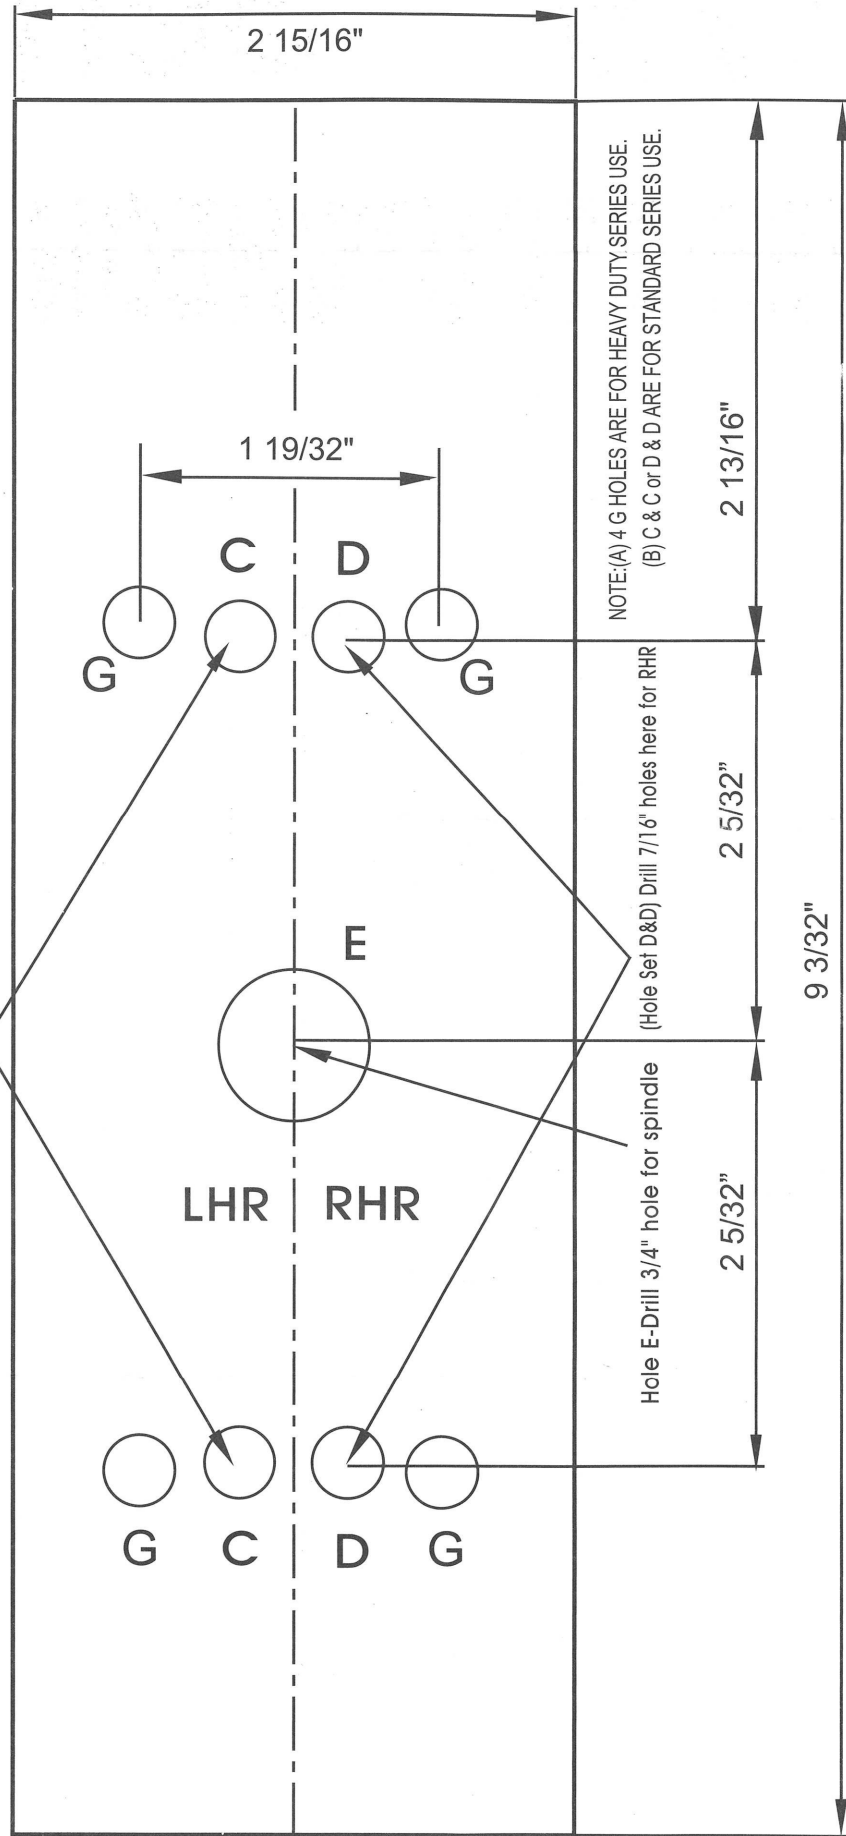
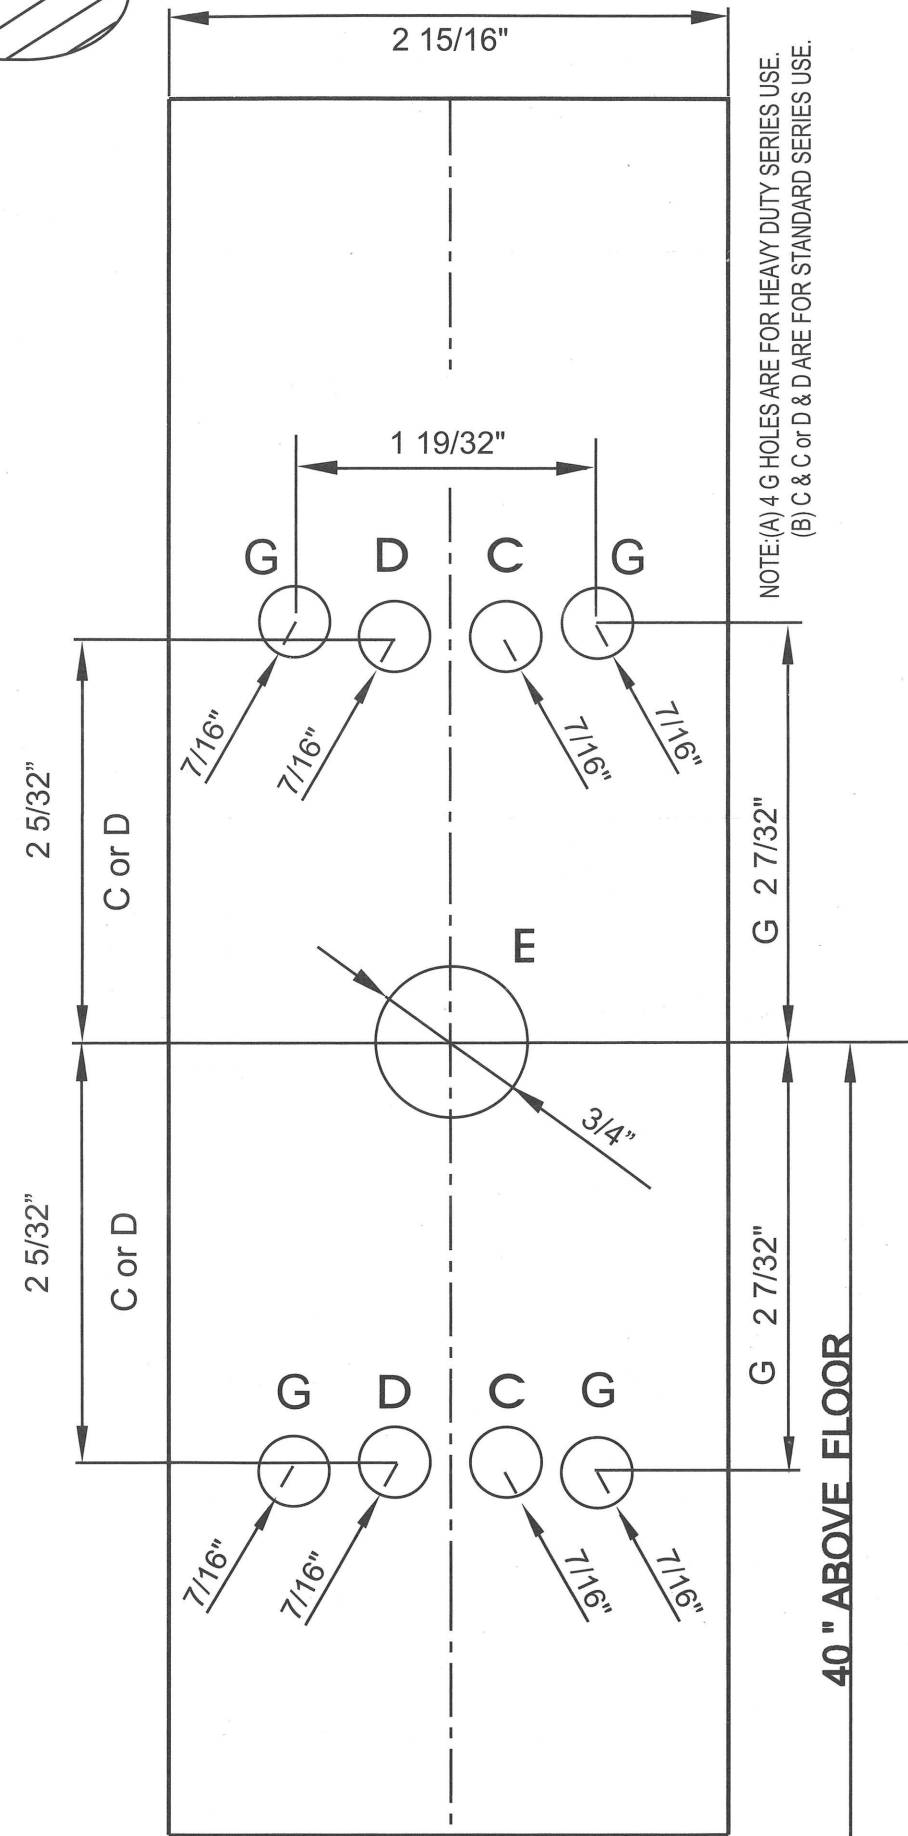

Fig7
Fig9
4. FOR HEAVY DUTY SERIES SCREWTHRU BOLTS INTO (4) G HOLES & FOR STANDARD SERIES SCREW THRU BOLTS INTO EITHER C&C FOR LHR OR D&D FOR RHR AND TIGHTEN.
7. PROCEED WITH TEMPLATING DOOR AS SHOWN IN FIG 7 AND FIG 9 FOR EITHER HEAVY DUTY OR STANDARD SERIES.